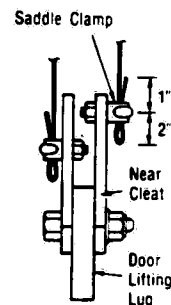

Figure 7-4. MOUNTING SADDLE CLAMPS.
- d. Pull cable taut and attach to saddle clamp on near cleat according to Figure 7-4.